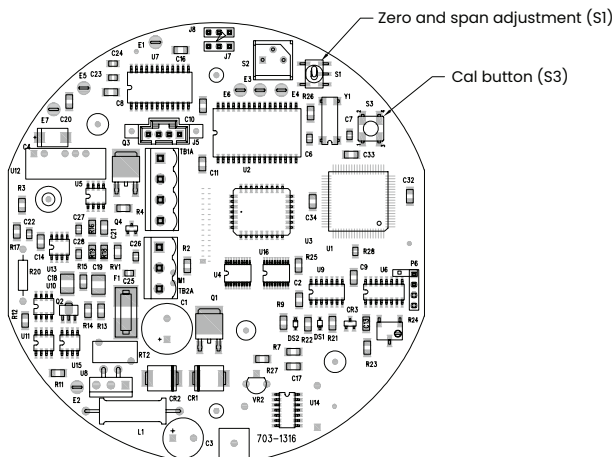

Figure 54: Calibration switch locations
3. The XMTC printed circuit board (PCB) is located directly below the cover. Locate the switches S1 (zero and span adjustment) and S3 (calibration button) using *Figure 54* below as a guide.